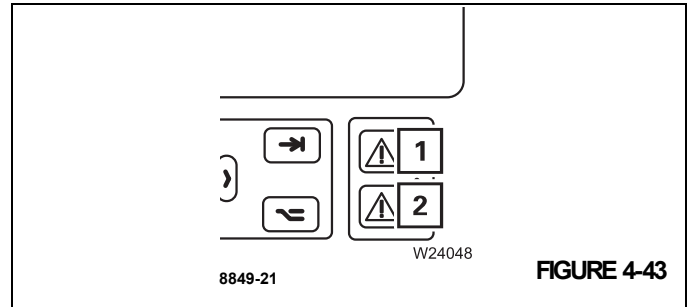

FIGURE 4-43
- Press button (3) once – symbols (1) and (2) will stop flashing.
Lamps (1), (Figure 4-43) and (2) will go out. The RCL code has been applied.